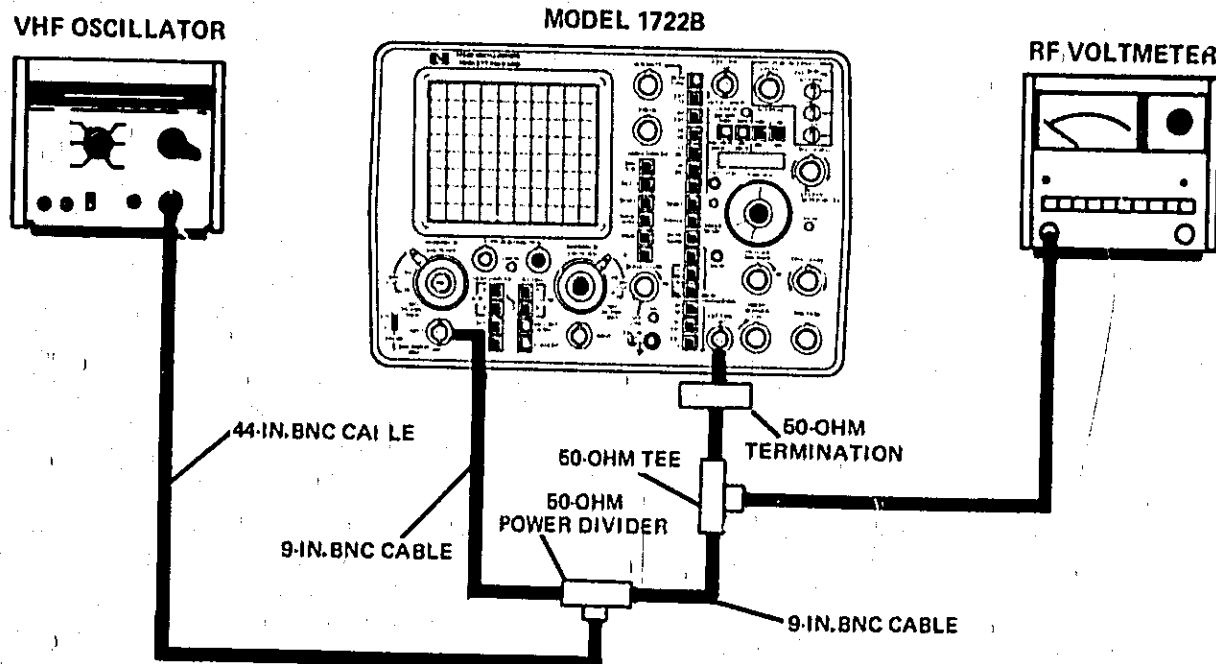

Figure 5-5. Main Triggering Test Setup
- a. Connect equipment as shown in figure 5-5.